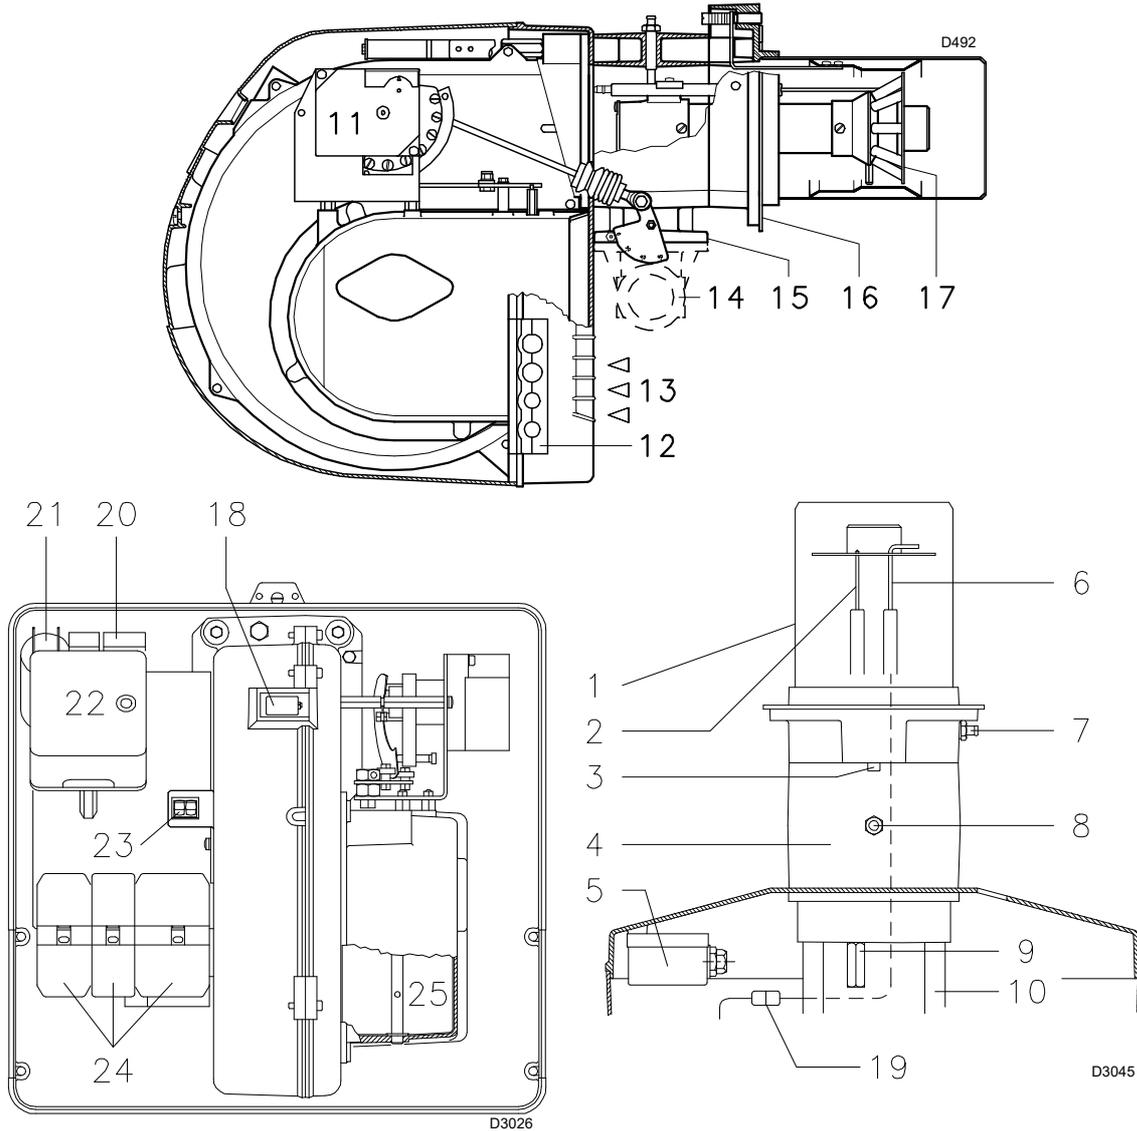

Fig. 4
- Pressure at test point 8)(Fig. 4 on page 12) with zero pressure in combustion chamber and at maximum burner output.
if the control box button (**red LED**) 22)(Fig. 4) lights up, it indicates that the burner is locked out.
Release by pressing the button on thermal relay 20)(Fig. 4).